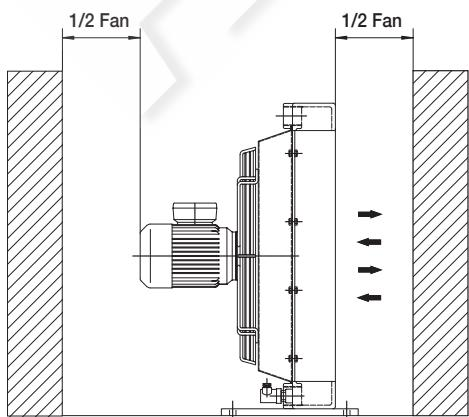

Fig.1
Lo scambiatore può essere montato in posizione orizzontale o verticale, rispettando la distanza minima dalla parete (vedi fig.1), in modo da assicurare un naturale afflusso e deflusso dell'aria di raffreddamento.
*The exchanger can be fitted in a horizontal position, respecting the minimum distance from the wall (see fig.1) so as to ensure a natural flow of cooling air. The exchanger is usually installed on oil tank return piping; it must also be protected from impacts and mechanical vibrations by supports and must be connected to the plant with flexible pipes.*